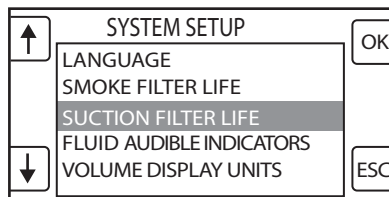

Figure 12 System Setup Screen
5. From the System Setup screen, push the buttons next to the arrow icons to highlight the appropriate system setting (see figure 12).